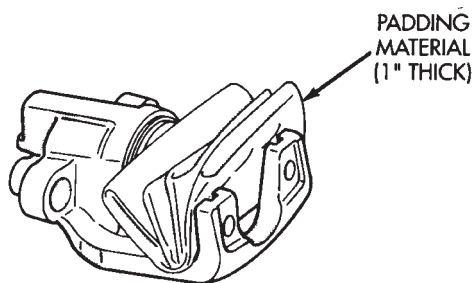

Fig. 75 Padding Caliper
- (3) Pad interior of caliper with minimum, one-inch thickness of shop towels or rags (Fig. 75). Towels are needed to protect caliper piston during removal.